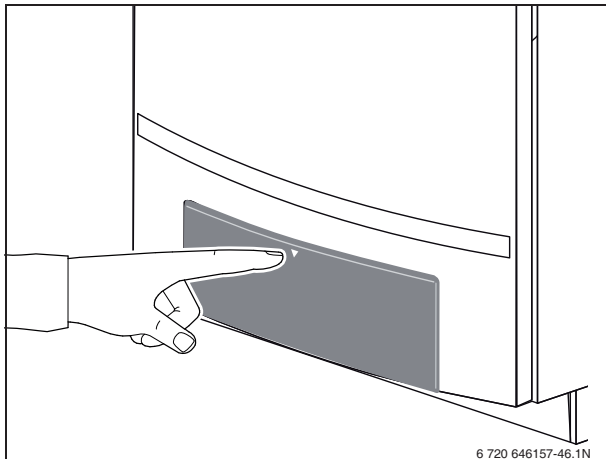
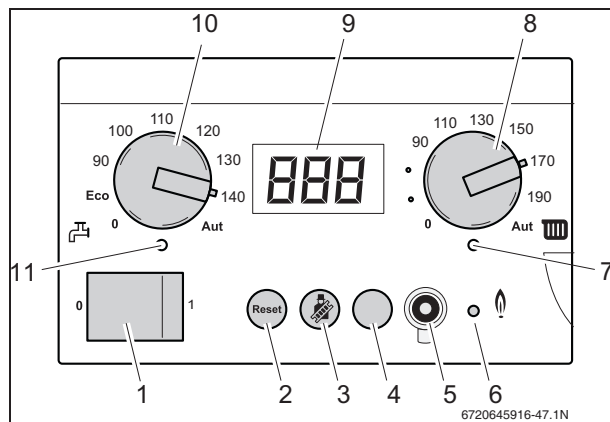

Fig. 46 Opening the control panel
Fig. 47 BC10 basic controller
- Push on the control panel (fig. 46) to get access to the BC10 basic controller (fig. 47).
- **"Main power switch"** (fig. 47, [1])
- **"Reset" button** (fig. 47, [2])
- **"Chimney sweep" button** (fig. 47, [3])
- **"Service" button** (fig. 47, [4])
- **Service Tool connection** (fig. 47, [5])
- **LED "Burner operation"** (fig. 47, [6])
- **LED “Central heat demand”**(fig. 47, [7])
- **Space heating water temperature knob**(fig. 47, [8])
- **Display**(fig. 47, [9])
- **DHW temperature knob**(fig. 47, [10])
- **LED “DHW demand”**(fig. 47, [11])
You can navigate through the menu structure of the boiler on the BC10 using the “Reset” button, the “Chimney sweep” button, the “Service button” (fig. 47, [2, 3 and 4]) and the display (fig. 47, [9]). The menu structure consists of 5 menus: